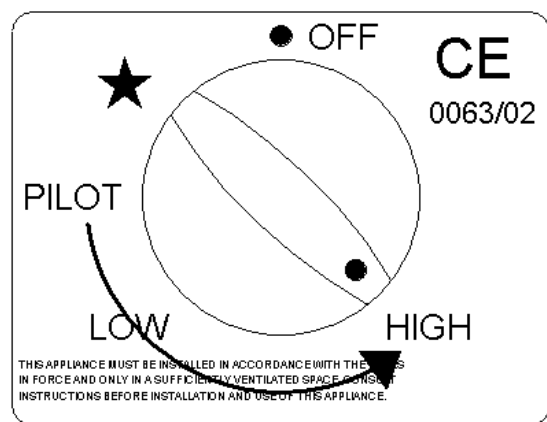

Fig 4c
*Step 2.* To ignite the main burner, rotate the control knob anti-clockwise to the **HIGH** position (fig 4c)